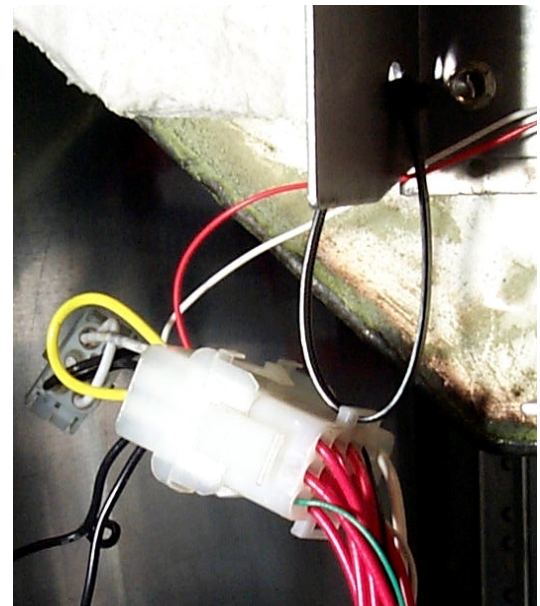
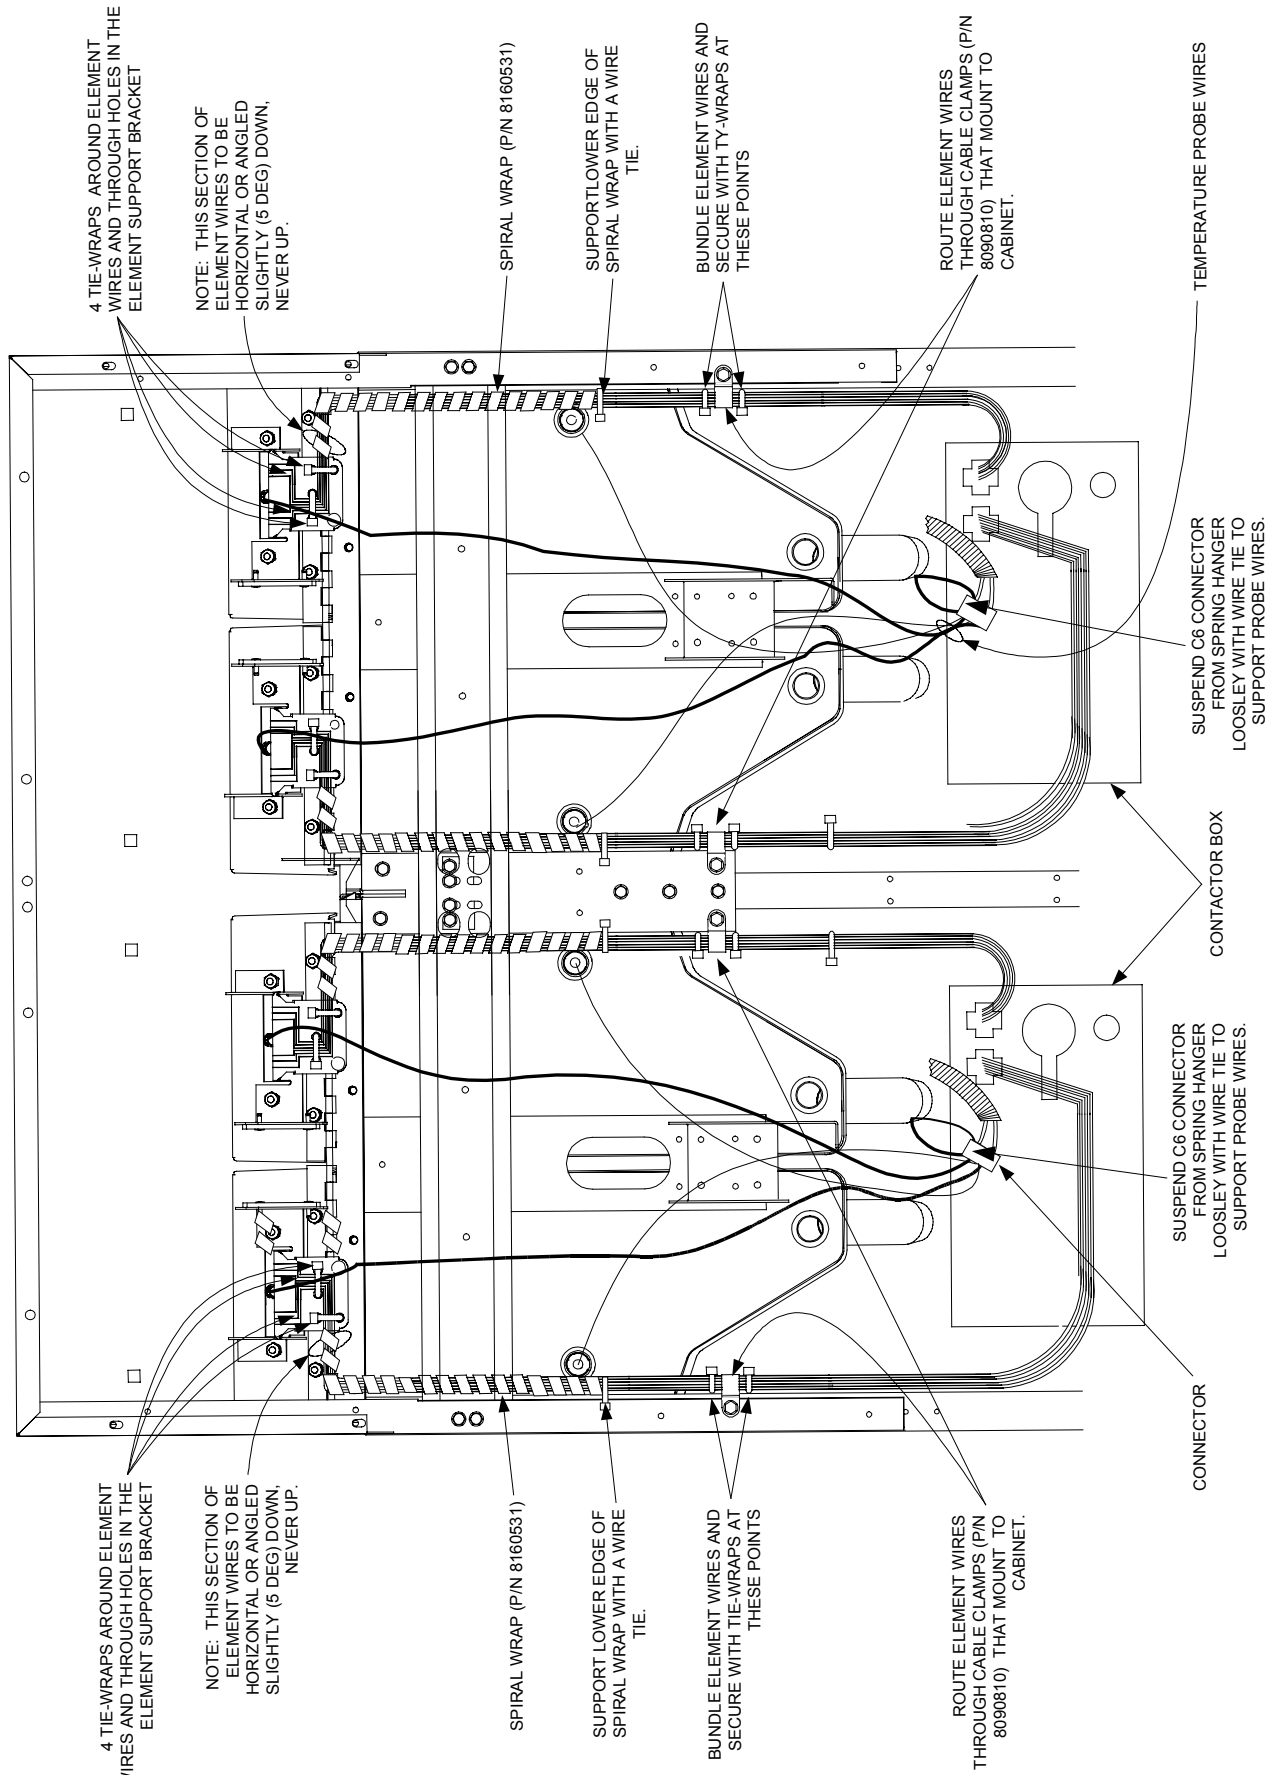

Figure 13: Suspend C6 connectors from spring hanger with a wire tie.
Fig. 14
14. Route the lower portion of the element wires out of the way of the back panel. Use wire ties to secure as required. See Fig. 14. Suspend the C6 connector from the spring hanger with a wire tie. See Fig. 13. Ensure the probe wires are not tight and do not rub against sharp edges. Also, ensure they are clear of the element springs.